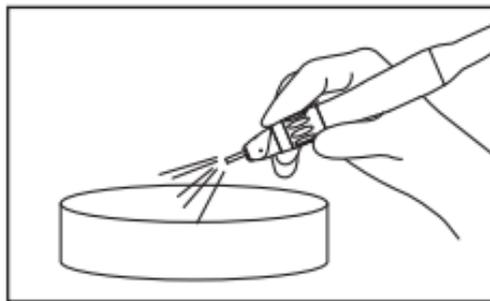

Fig. 9
- ② Operate the handpiece at the chair-side for at least 20 seconds to purge fluids in X65L and M65 (Fig. 9). After the handpiece rotation has completely stopped, touch the tip and bur lock ring of the handpiece to confirm they are not heating abnormally.